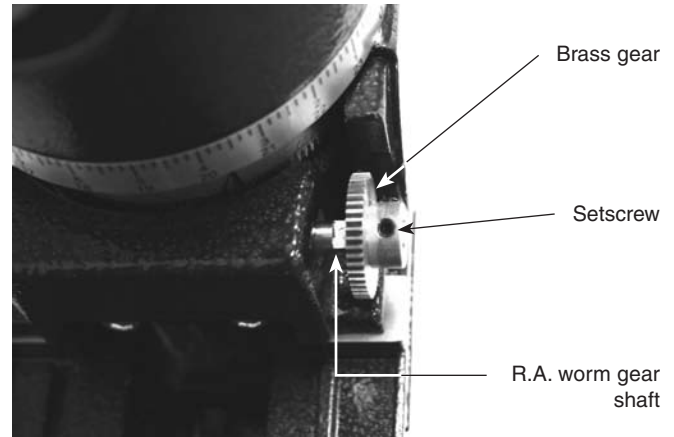

Figure 5. Correct orientation of brass gear for R.A. axis
- Slide the geared end of one of the small brass gears onto the worm gear shaft so it resembles Figure 5. Rotate the small brass gear so that one of the setscrews will press against the flat part of the R.A. worm gear shaft. Secure the small brass gear by tightening the setscrews with the included 2mm hex key, but do not overtighten. You may have to make small adjustments to the gear's position in the following step to ensure proper gear engagement.